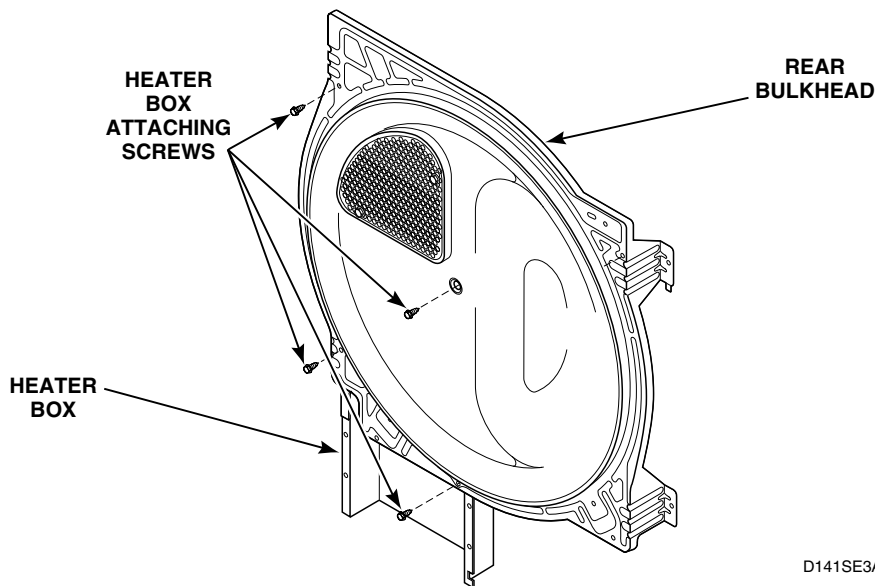

Figure 56
- n. To remove heater box from rear bulkhead. Refer to *Figure 56*.